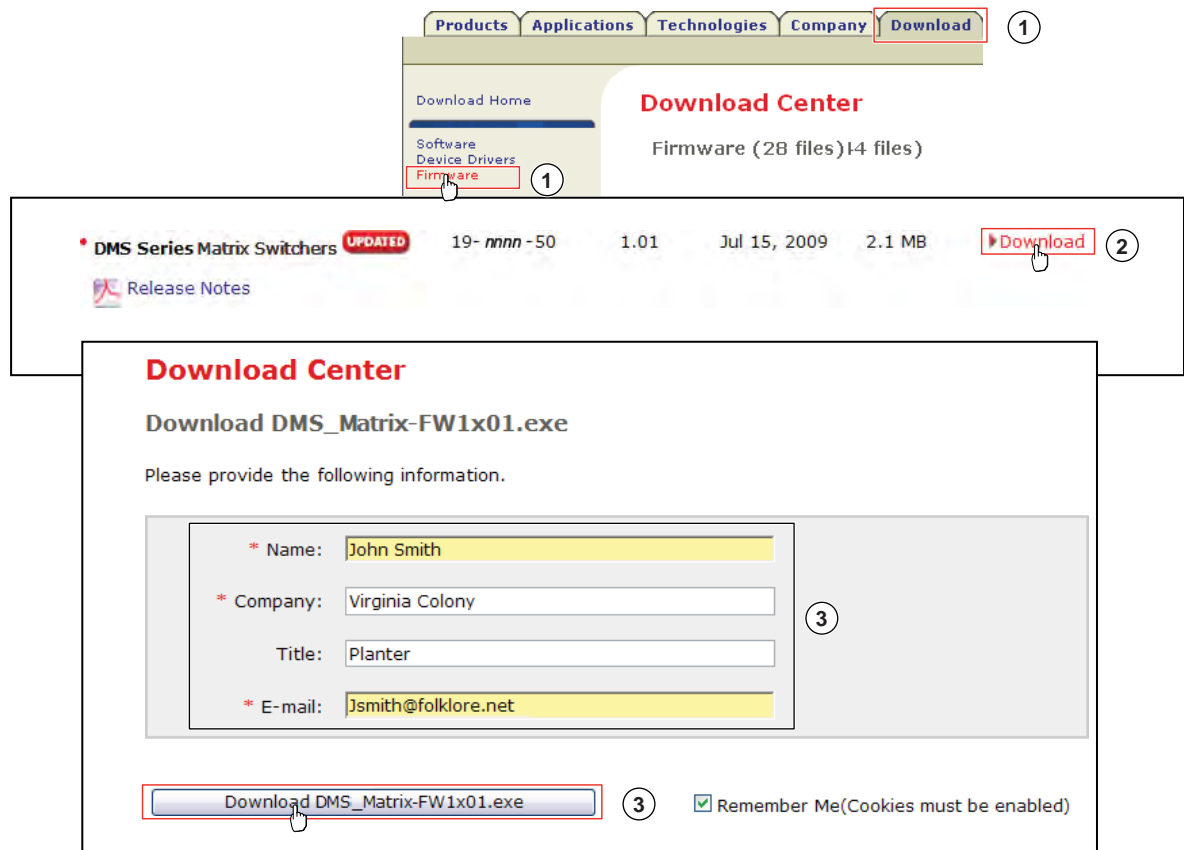

Figure 41. Location of Firmware Upgrade Files
1. Visit the Extron website, www.extron.com, click **Download** (see figure 41).